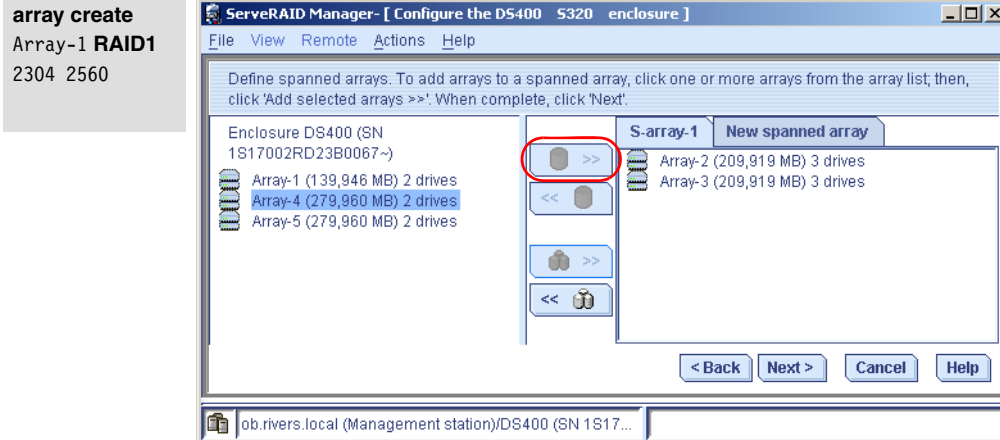

Figure 4-98 Spanned arrays with drives
14. The window shown in Figure 4-98 is used to create spanned arrays. Select the base arrays which will be used to build a spanned array. Select **Array-2** and **Array-3** and assign them to the **New spanned array**. The **New spanned array** tab will be renamed to **S-array-1** and a new **New spanned array** tab is created. Create another spanned array with Array-4 and Array-5. See Figure 4-98. Click **Next**.